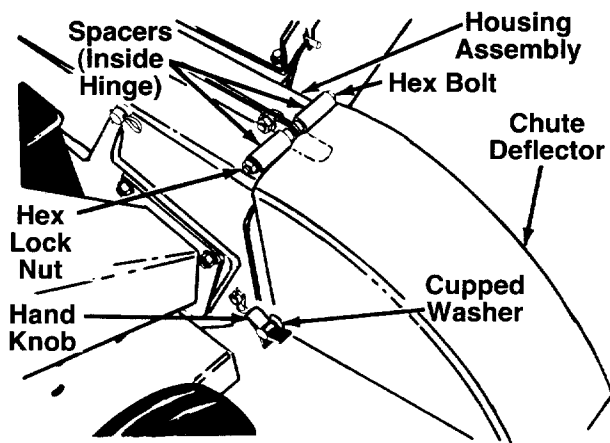

FIGURE 2.
ATTACHING THE CHUTE DEFLECTOR (See Figure 2)
3. Place the chute deflector in position on the discharge opening. Insert hex bolt and spacer through hinge on chute deflector and housing (spacer fits inside of hinge). See figure 2.